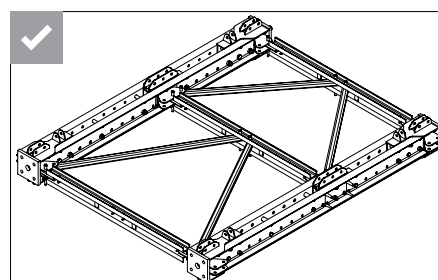
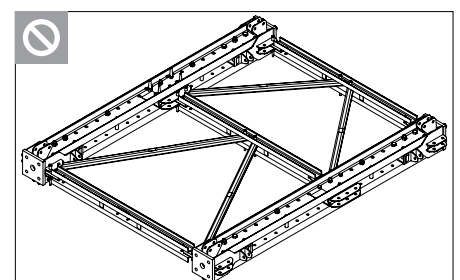

Fig. B3.02d
Fig. B3.02e
6. Repeat the procedure for all Diagonal Struts VST. (Fig. B3.02d)
Horizontal support is connected to the Cross Connector VST not to the Bracing Connector VST. (Fig. B3.02d) (Fig. B3.02e)